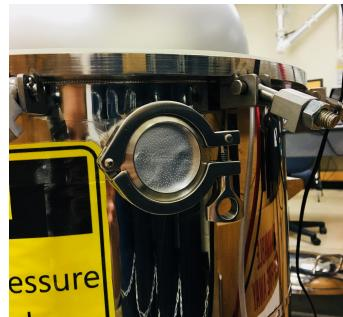

Figure 9: Ensure the rupture disk is present and intact
2. Ensure the vessel rupture disk is intact and positioned correctly (See Figure 9)